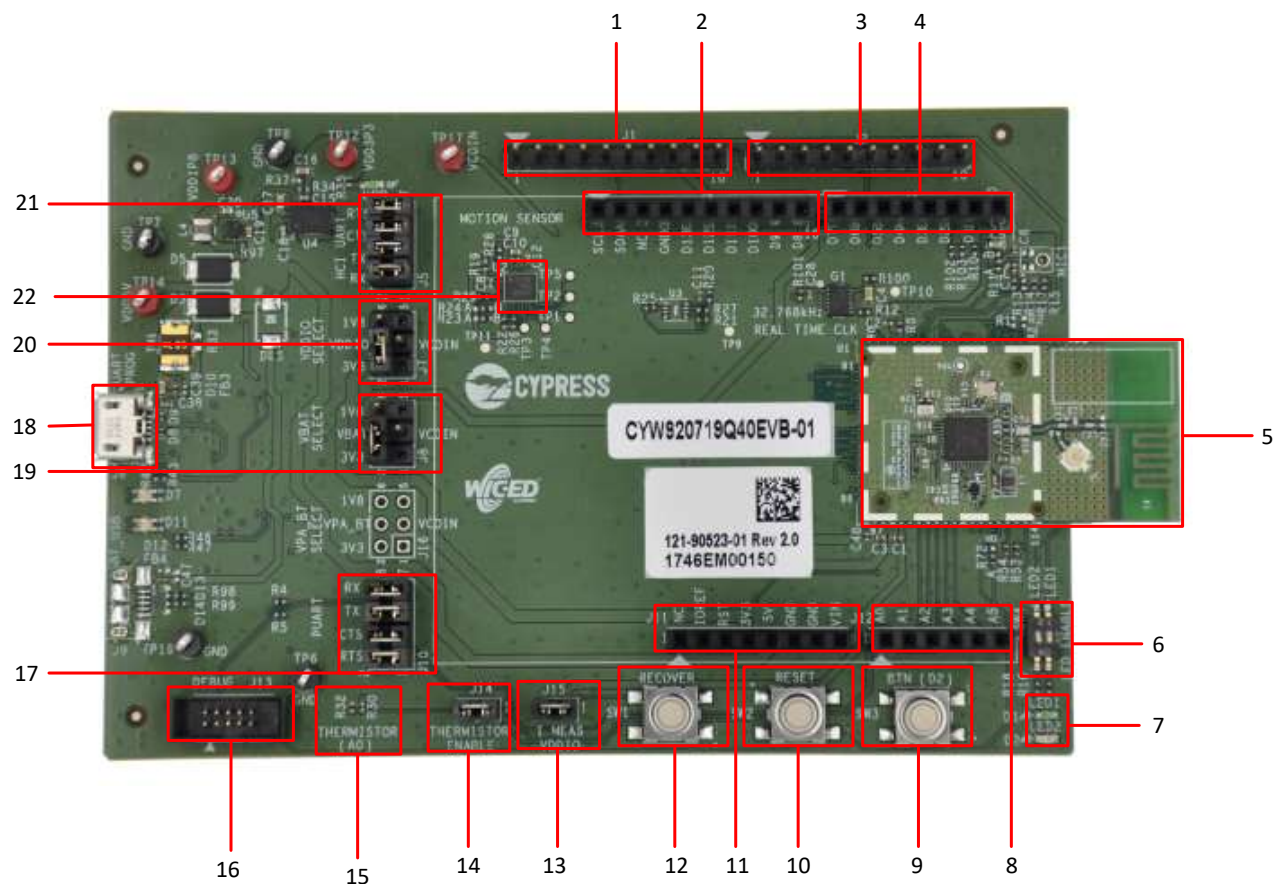

Figure 3-3. CYW920719Q40EVB-01 Evaluation Board
- Automatically, by pressing button **SW 3** (see Figure 3-3) on the WICED evaluation board (**Allow Notifications** must be selected from the **Value** drop-down list to allow automatic notifications).
- ☐ The Hello Configuration read-write characteristic is used to configure the number of times an LED on the evaluation board blinks (see Figure 3-3) when the value is changed and whenever button **SW 3** is pressed.
2. Press button **SW 3** on the WICED board (see Figure 3-3). The Hello X message is displayed in the **Value** field. Each time the button is pressed, the message number increments.
2. Press button **SW 3** on the WICED board (see Figure 3-3). The LED on the board again blinks five times.
Figure 3-3 and Figure 3-4 show the markup of the CYW920719Q40EVB-01 board. See the list below for a description of the numbered items.